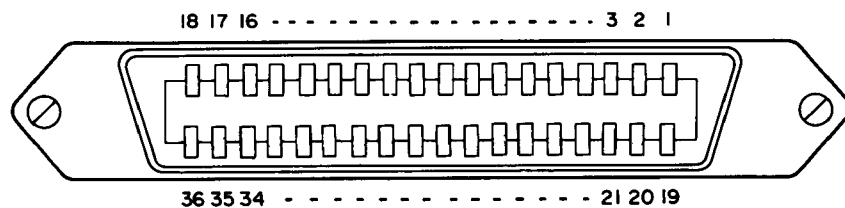

Figure 4-8. Handler Interface Connector Pin Assignments.
- Check the states of the comparison data output (TTL) at the HANDLER INTERFACE connector using the 3478A. The pin assignments and the data states are shown in Figure 4-8 and Table 4-11.